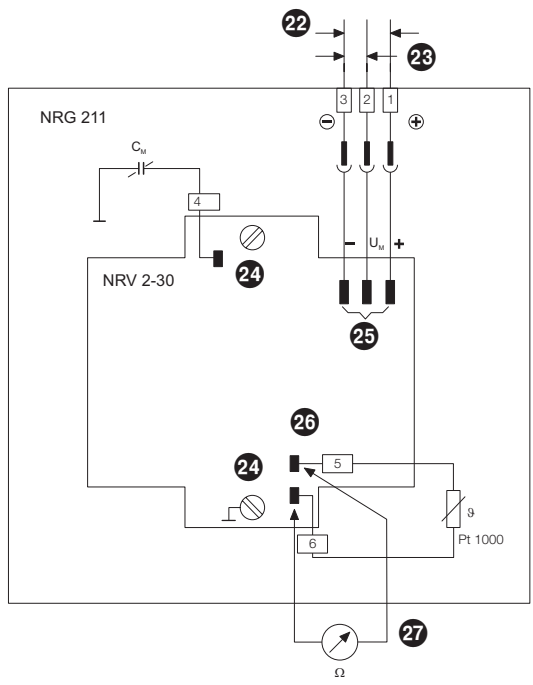

Fig. 5
5. Wire connecting terminals in the contact block **21** according to **Fig. 5**.